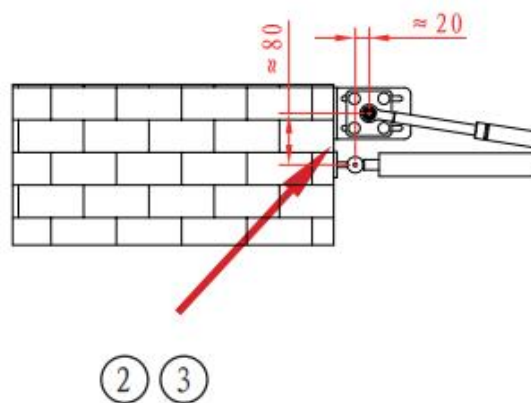

Fig 7
4. Find a suitable mounting location on one side of the shaft and install the rear bracket. See Fig 7